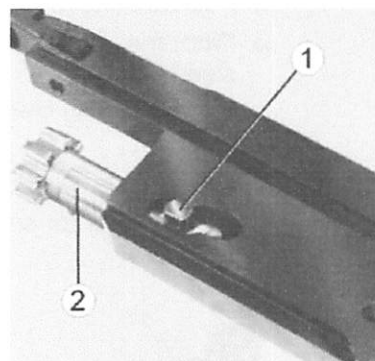

Fig. 47 Replacement of bolt head, compl
- ⇒ Pull out the bolt head (Fig. 47/2) until the cam pin is in the horizontal position.
- ⇒ Remove cam pin to the left (Fig. 47/1).